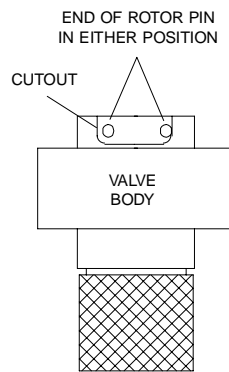
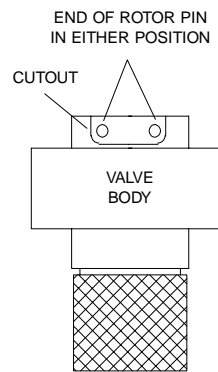
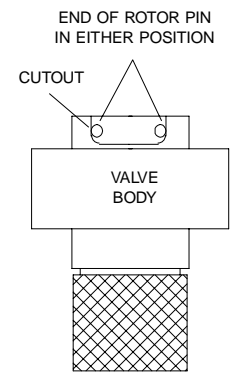

Figure 10
Figure 11
Figure 12
It is important to note that the actuator actually drives only the rotor within the valve body, and that the valve or valve/standoff assembly remain stationary with respect to the actuator. To check the alignment, cycle the actuator from one position to the other and observe the location of the rotor pin. The rotor pin should come to rest against both sides of the cutout in the valve body. **Figures 10-12** show the rotor pin in both positions (LOAD and INJECT). In **Figure 10**, the rotor pin contacts one side of the cutout but does not touch the other side, indicating that the valve needs to be aligned. (See Section 5.4, **Alignment Procedure**.) In **Figure 11**, the pin does not touch the cutout on either side, indicating that the actuator stroke must be adjusted. (See Section 6.1, **Adjusting the Actuator Stroke**.) **Figure 12** shows the pin properly contacting both sides of the cutout.
4. Temporarily install the mounting bracket at 90° from normal (see **Figure 12**) so that the adjustment hole is accessible.